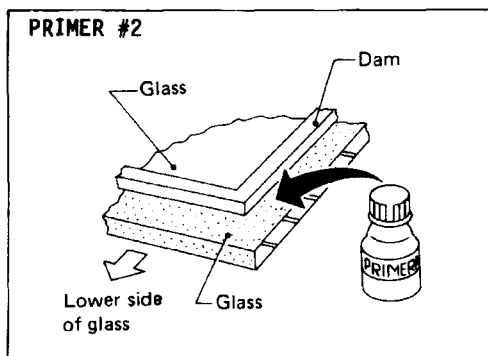
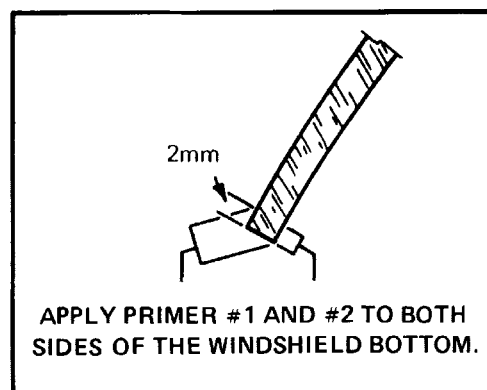

FIGURE 5a
FIGURE 5b
- Using the small brush in the kit, apply **primer bottle #2** to the top and side windshield edges and lower surfaces (Figure 5a), and to both sides of the lower edge as indicated (Figure 5b).